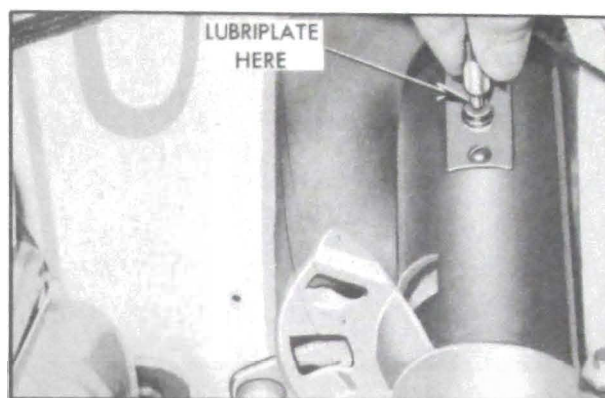

Figure 1-14—Lubrication of Horn Cable Connector
5. *Horn Cable Connector.* Pull out plunger of horn cable connector on steering column jacket and apply a small amount of Lubriplate at point shown in figure 1-14. Work plunger in and out to work lubricant in between plunger and the bakelite insulator.